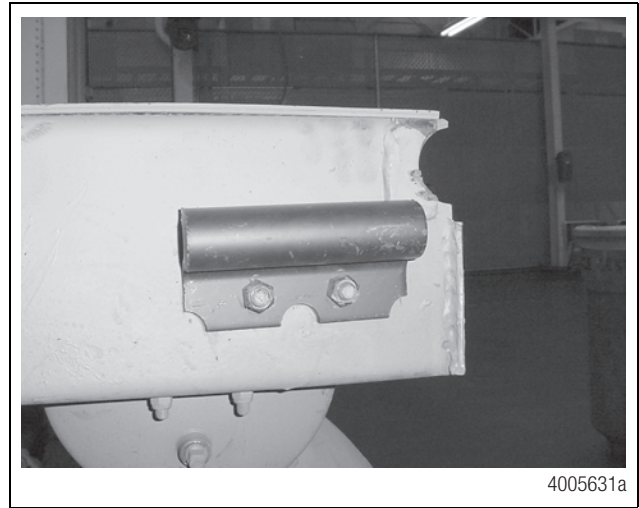

**Figure 21**
- Position and weld the enhancement angles at the extreme rear. You may need to modify the air tank bracket to install the enhancement angle. Refer to Figure 20 and Figure 21.